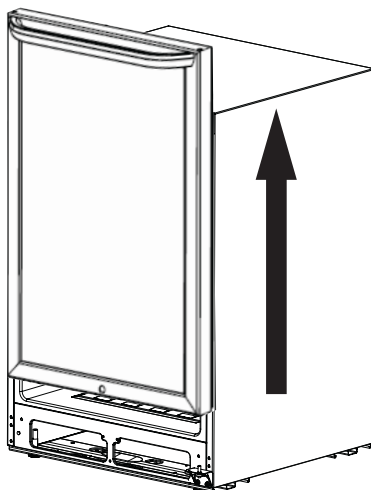

Figure 2
2. Carefully grasp top of door, tilt it forward slightly to clear hinge, then lift the door up off of bottom hinge and place it on a padded surface to prevent scratching it. (See Figure 2.)